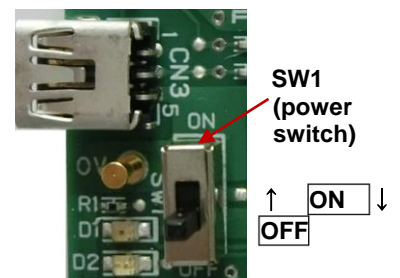

Figure 7
- (3) Turn on the power switch (SW1) on EM7160 (see Fig. 7).